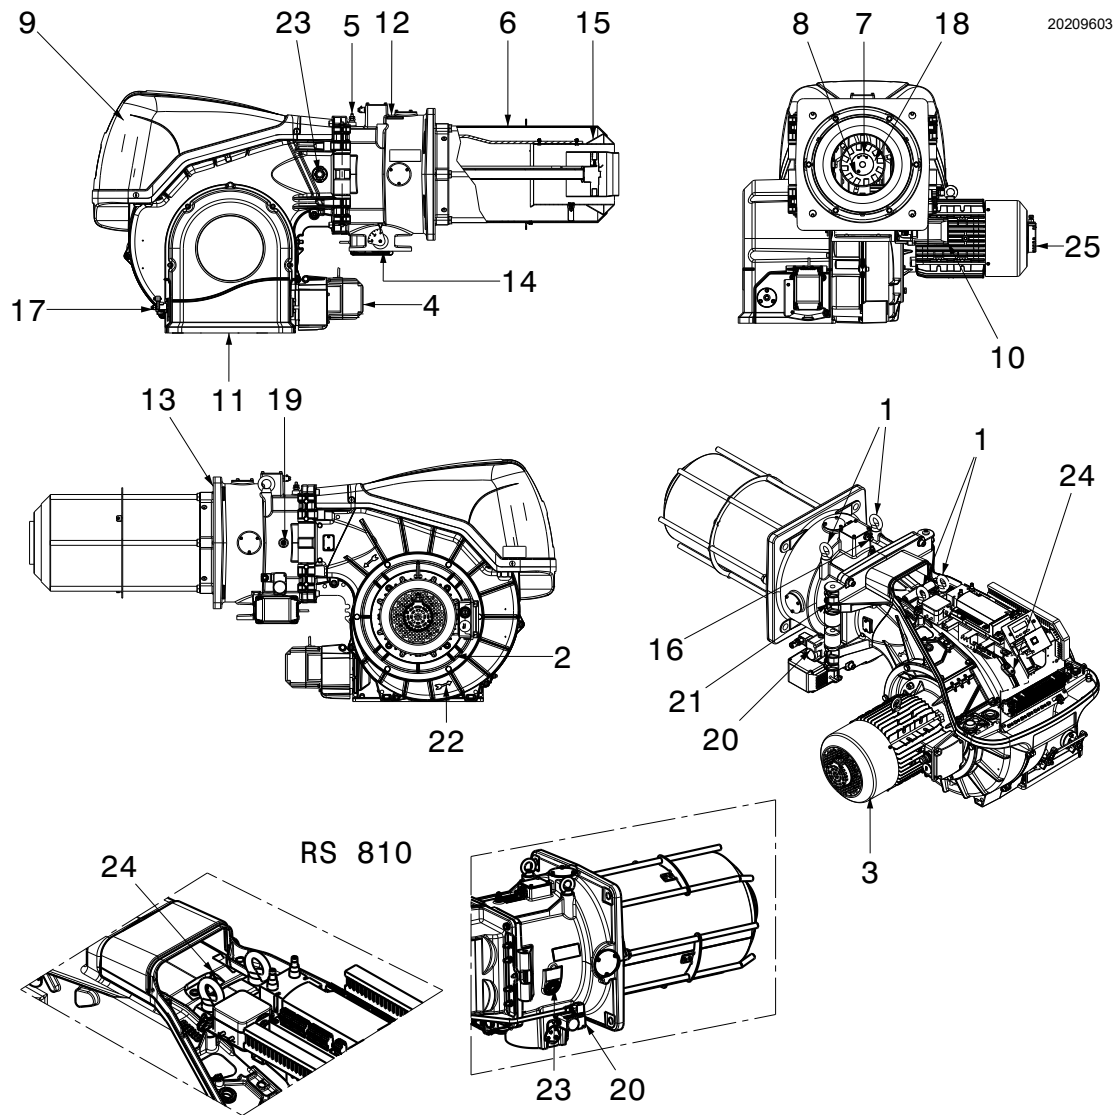

Fig. 5
- (1) Reference conditions: Room temperature 20°C - Gas temperature 15°C - Barometric pressure 1013 mbar - Altitude 0 m a.s.l.
- (2) Pressure at the test point 5)(Fig. 5 on page 11) with zero pressure in the combustion chamber and at maximum burner output.
- (3) Sound pressure measured in manufacturer's combustion laboratory, with burner operating on test boiler and at maximum rated output. The sound power is measured with the "Free Field" method, as per EN 15036, and according to an "Accuracy: Category 3" measuring accuracy, as set out in EN ISO 3746.
Replace the GW 500 maximum pressure switch (Fig. 5 on page 11) installed on the burner with the GW 150 gas pressure switch supplied as equipment.